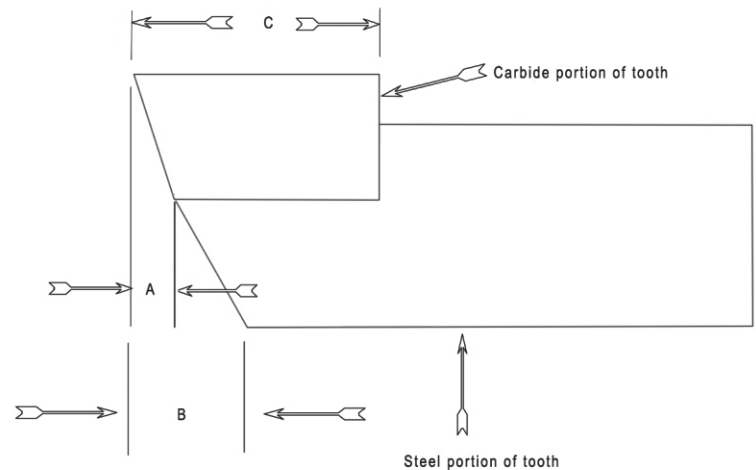

Fig. 15: Guide to sharpening grinding teeth
Stump grinder teeth have a carbide tip that is silver soldered to a steel base. The carbide tip is what actually cuts the stump. The tip also shields the steel beneath it from being worn away. Maintaining the sharpness of the carbide and keeping down relief at 10 degrees (see Dimension A, Figure 15) will result in a machine that cuts more efficiently than a machine that has dull teeth.
- i. Use the steel grinding wheel to grind away some of the steel that is beneath the carbide tip. Grind steel at a 12 degree angle (see Dimension B, Figure 15)
- ii. Use the carbide wheel to grind the carbide at a 10 degree angle (see Dimension A, Figure 15).
- iii. Teeth may be sharpened as long as 3/8 of carbide remains on the tip (see Dimension C, Figure 15).